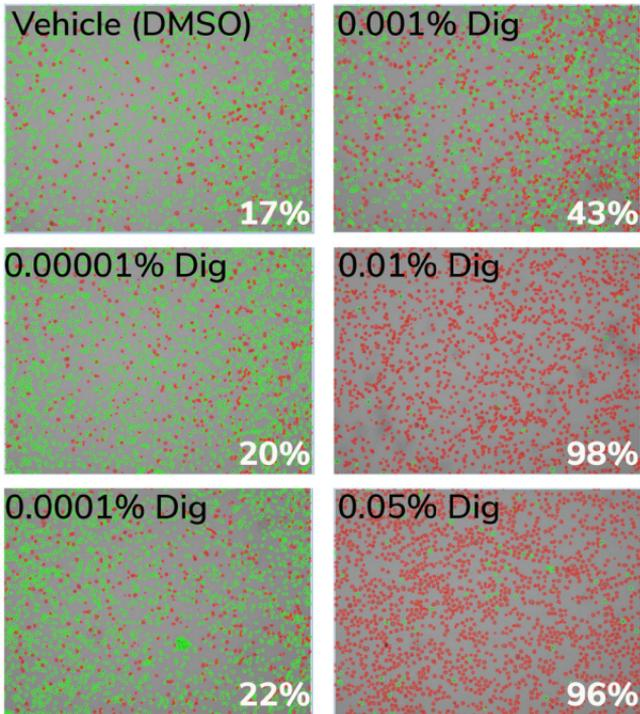

FIGURE 7
- For experimental cells, optimize permeabilization conditions by varying the amount of **Cell Permeabilization Buffer (CP2) Additive**. Use Trypan blue staining to verify that cells have been permeabilized (Figure 7).
<p>Using anti-H3K4me3 & IgG Control Antibodies: CUTANA Spike-in Controls produce expected result (Figure 11), but genomic signal is poor (e.g. low signal-to-noise, poor peak structure).</p>	<ul style="list-style-type: none"> • pAG-MNase cleavage and wash conditions are optimized. • Confirm cell viability: low viability will increase noise. • Start with 500k cells & optimize controls before decreasing cell number. • Ideally, start with native cells. If using cross-linked samples, make sure they are only lightly cross-linked (see Appendix II). • Ensure cells are not clumped prior to immobilization and beads do not clump throughout protocol. • Ensure cells are adequately permeabilized by optimizing the amount of CP2 Additive (see Figure 7). • Optimize conditions in native K562 cells before trying additional sample types.